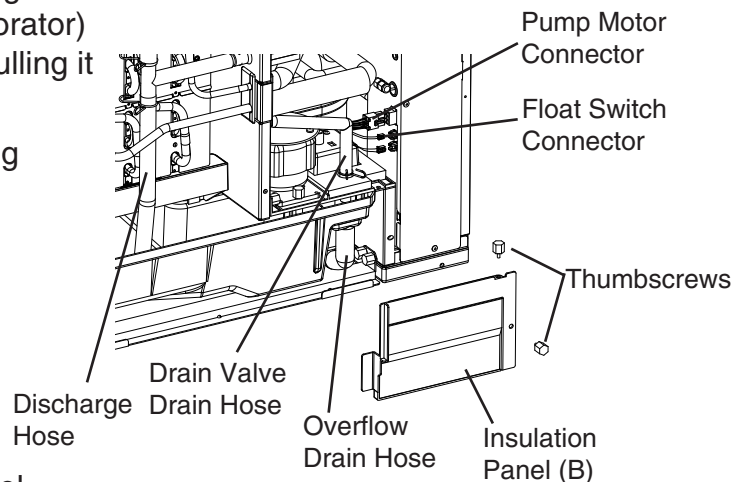

Fig. 6
- 3) Remove insulation panel (A) (the large insulation panel in front of the evaporator) by lifting up the panel slightly and pulling it towards you.
- 4) Remove the 2 thumbscrews securing insulation panel (B), then remove insulation panel (B). See Fig. 6.